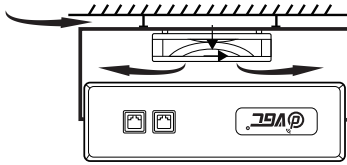

Figure 2
2. Please cooling the bottom of the main transceiver, because the bottom is a heater. You don't need to cool the top of the main transceiver (with the speaker). Also, please follow the following procedures to properly installed the bracket of the fan.(Figure2/3/4)